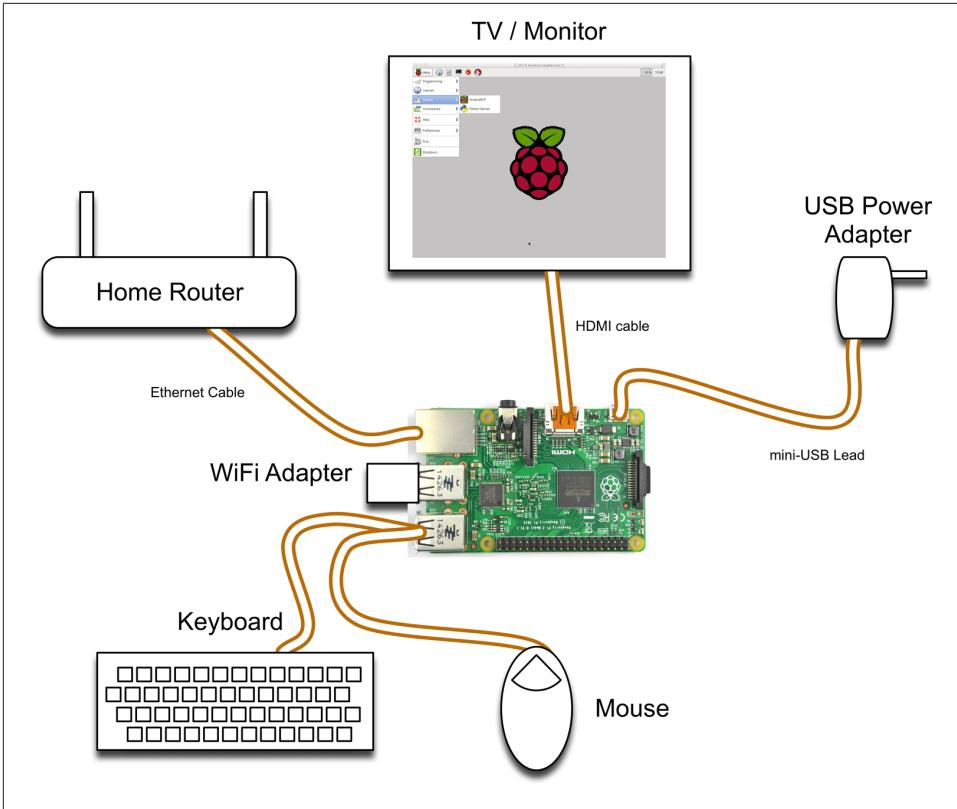

Figure 1-6. A typical Raspberry Pi system
**Figure 1-6** shows a typical Raspberry Pi system.